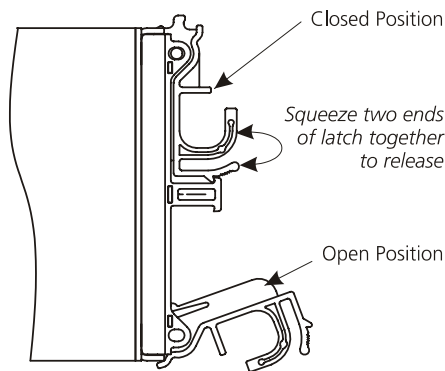

Figure 4-7 SCM I/O Module Latch Operation
- 2 Cam the module home by manually closing the latches (see **Figure 4-7**).